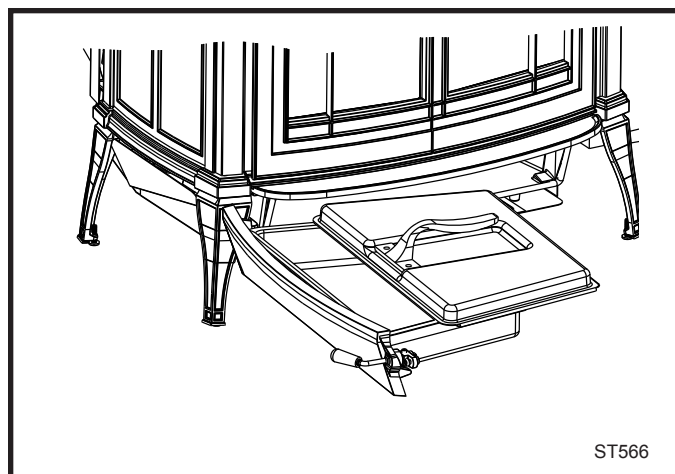

Fig. 40 Be sure the cover is securely attached before removing the ash pan.
- Slide the cover onto the pan, making sure it is securely closed. (Fig. 40)
- Return the ash pan to its original position in the stove, and close and latch the ash door. (Fig. 40)